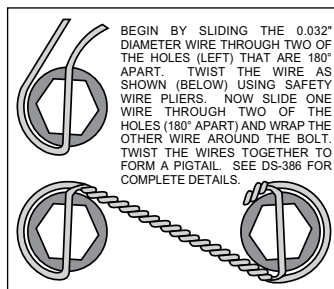

Figure 3. Safety Wire Diagram
- With the larger I.D. side of the rotor (5) facing away from the hat (6), bolt rotor (5) to hat (6) through the backside of the rotor using washers (7) and bolts (8). Apply red *Loctite*® 271 to the bolt threads and torque to 155 **in-lb** using a criss-cross pattern. For an added measure of security, the bolts may be safety wired using standard 0.032 inch diameter stainless steel safety wire as shown in Figure 3. Please refer to Wilwood’s data sheet DS-386 (available at www.wilwood.com/Pdf/DataSheets/ds386.pdf) for complete safety wire installation instructions.